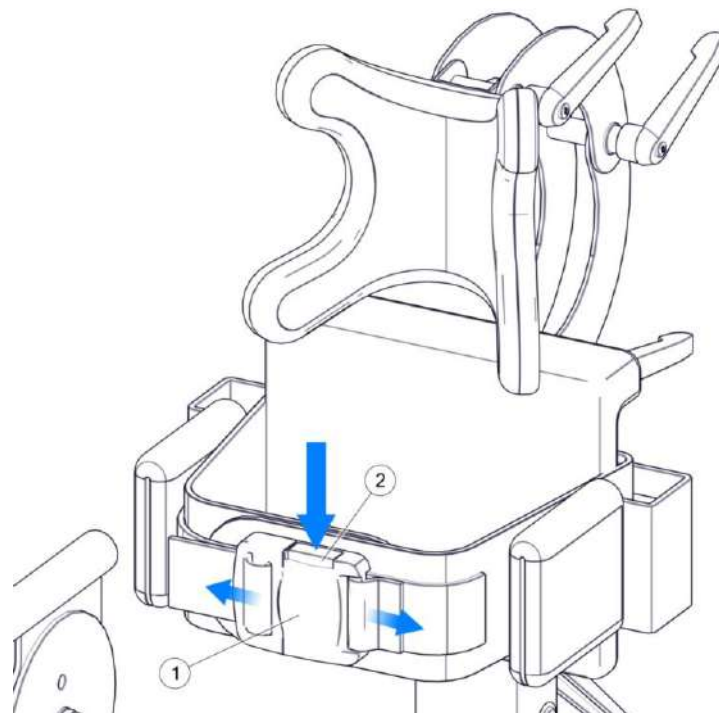

Figure 10
7.6. Chest/hip belt/harness – Figure 10